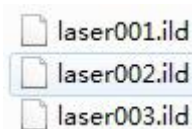

Fig. 4
2. Put the ild format document in “ildfiles” folder. (Caution: The name limited 8 character ). For example fig.4